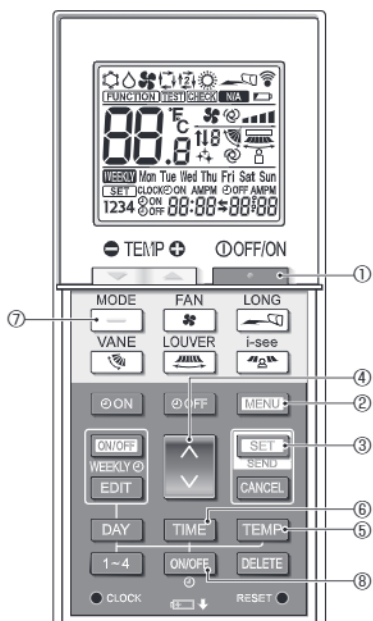

Fig. 6-9
1. Press the **+** button ① to stop the air conditioner.
2. Press the **MENU** button ②. The Function setting screen will be displayed and the function No. (A) will blink. (Fig. 6-9) Press the **↑** button ④ to change the function No.